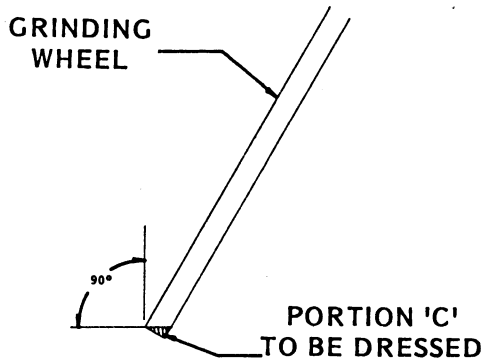
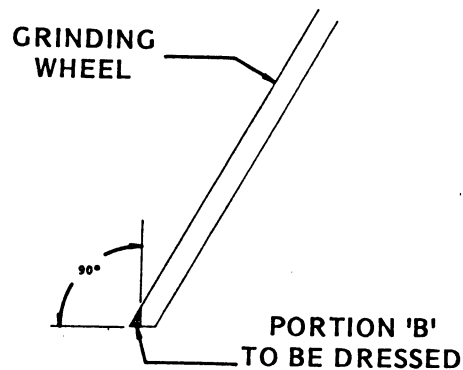

FIGURE 21
FIGURE 22
- B. Dress section "C" of the wheel by holding the dressing stone horizontal and dress a flat on the bottom of the grinding wheel (See Figure 21). This is the portion that will grind the gullet area.
- C. After obtaining the results shown in Figure 21, hold the dressing stone vertical and dress the vertical portion "B" which grinds the side plate angle of the cutter link (See Figure 22). If you dress the wheel too far at this point, the portion "B" will be too large and will cause the side plate angle to run into portion "A" and "C" during the grinding process.